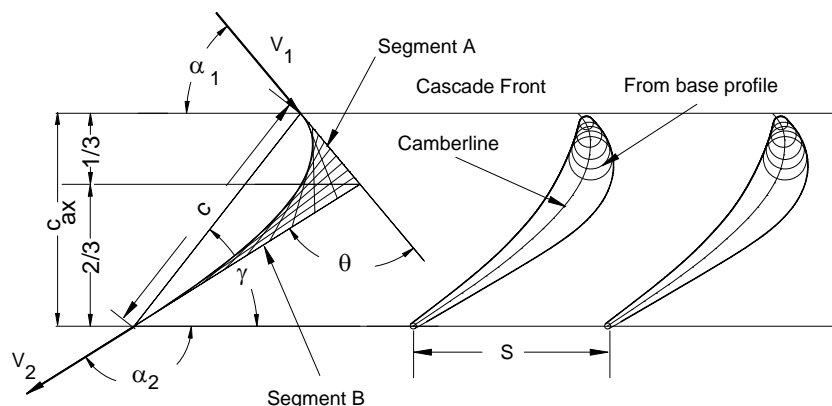

Figure 1
To design subsonic turbine blades, a step-by-step design procedure is given, see also Fig. 1
- 8) With the tangent at inlet and exit as Fig 1. Construct the camberline using **Bezier function** as detailed in Chapter 10. You may use instead of 1/3 a one half distance (item 3)
- 1) Divide segment A and B into equal segments as shown in Fig.1.